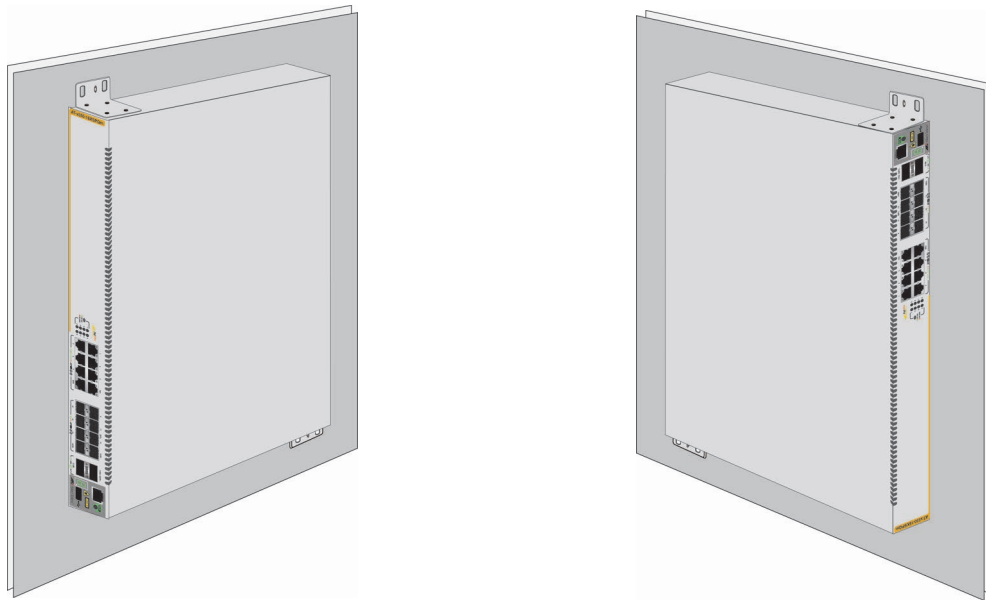

Figure 40. Positioning the Switches on the Wall
You can install the switch on a wall with the front panel on the left or right, as shown in Figure 40. Do not install it with the front panel on the top or bottom.
- Position the switch so that the front panel is either on the left or the right. Refer to Figure 40 on page 76. You may not install the switch with the front panel facing up or down.